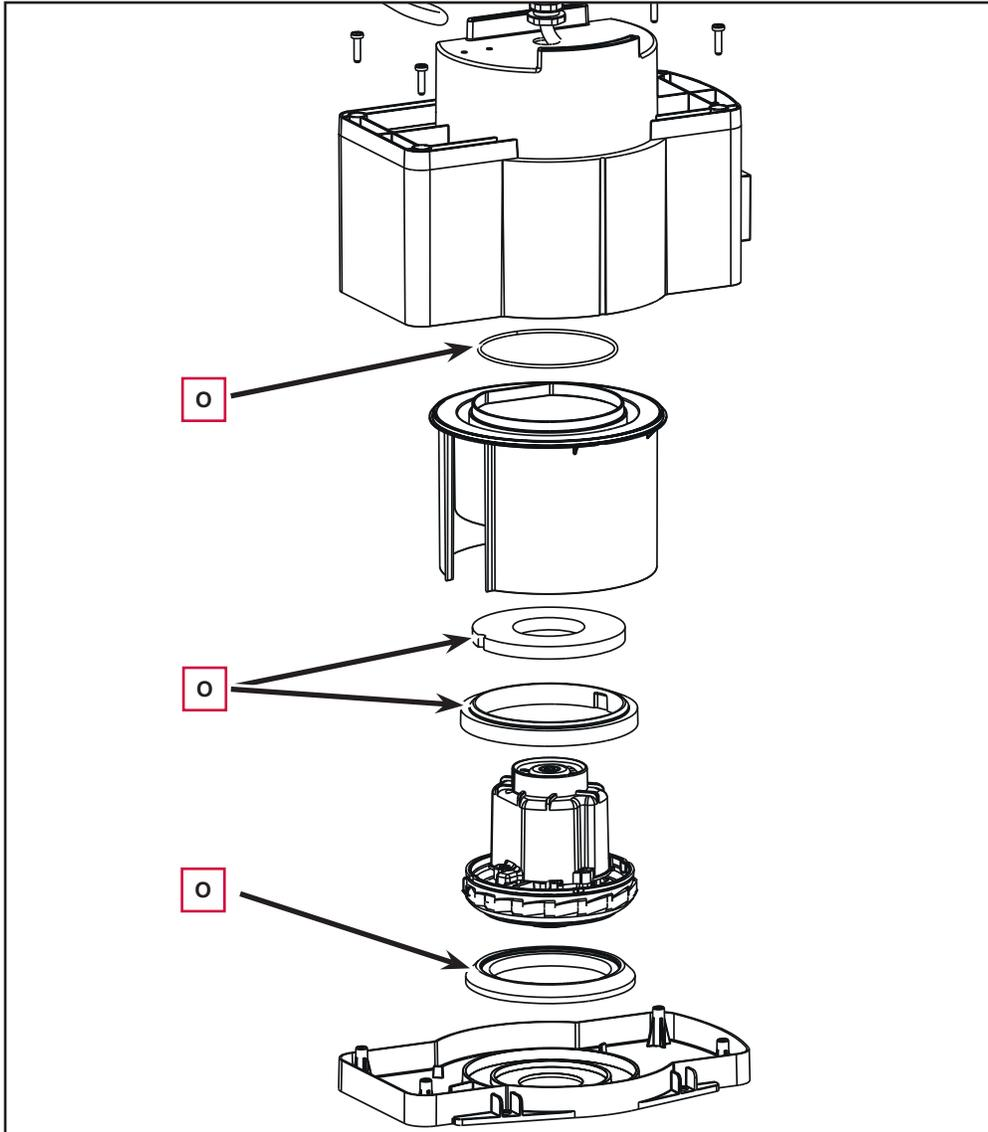

Figure 11
14. Clean and check the condition of all seals (O) (Figure 11); replace them if necessary.